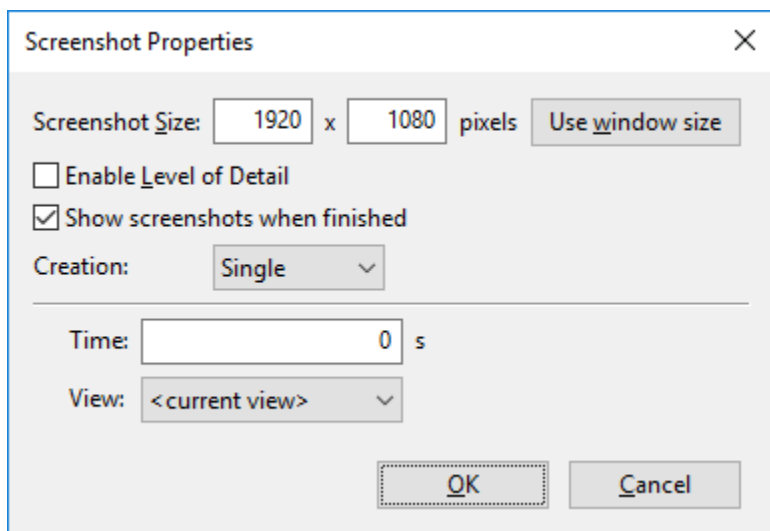

Figure 4-9: Screenshot dialog
5. The **Screenshot** dialog will appear as shown in Figure 4-9. The following options are available for screenshots: